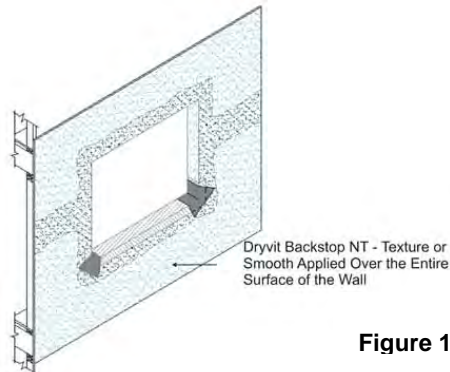

Figure 11
- 4) Install the specified component (i.e. window, etc.) and associated flashings per manufacturer's directions and contract documents. Then apply Backstop NT – Texture or Smooth to the remainder of the wall surface as described in Section VI and lap over the previously installed material (do not lap over Flashing Tape if specified) around openings – Figure 11.